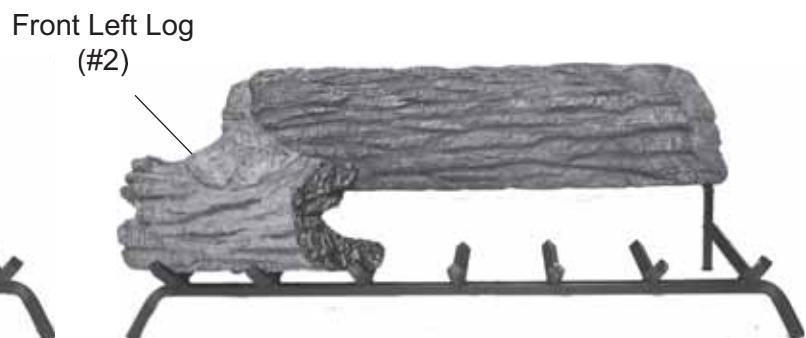

Figure 37 - Placing Front Left Log (#2)
3. Place front left log #2 in front of the plate and to the left. See *Figure 37*.